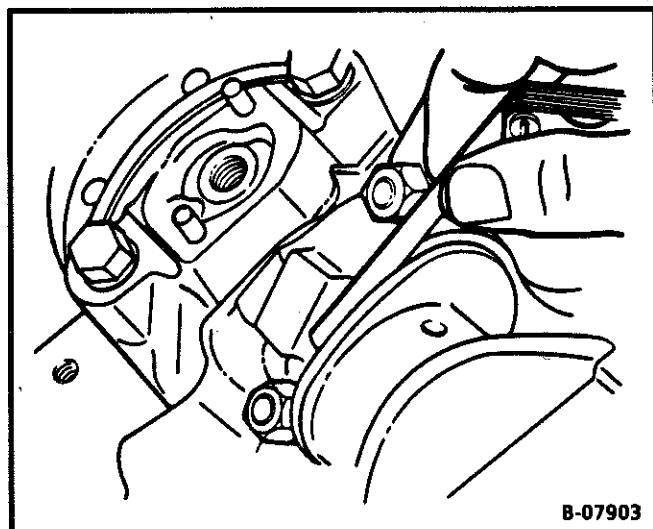

Figure 27 - Measuring Connecting Rod Side Clearance
- Connecting rod side clearance. Use a feeler gage between the connecting rod and crankshaft (Figure 27). The correct clearance is 0.006" to 0.025".